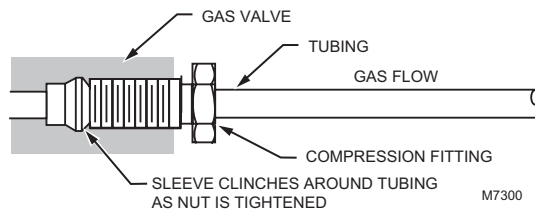

Fig. 4. Connecting tubing to pilot for bleed gas tapping.
Connect Pilot and Bleed Gas Tubing (Fig. 4)
2. Unscrew brass compression fitting from pilot gas tapping (Fig.4). Slip the fitting over the tubing and slide out of the way.